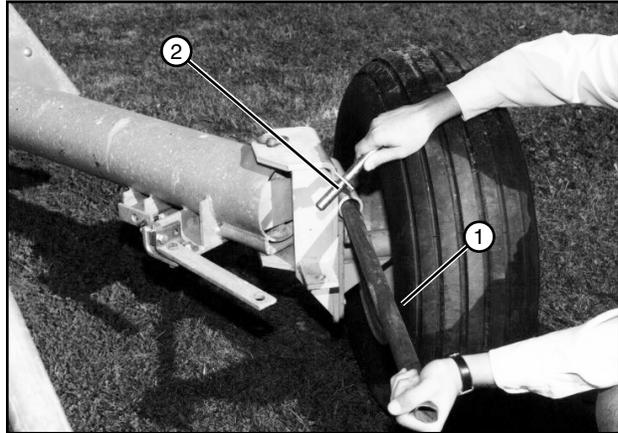

Figure 44-1 1. Bar
6. Remove hardware securing wheel in the tow position. See figure 44-1.
7. Insert a bar in the swivel tube and turn the wheel to the pivot swivel position. See figure 44-1.